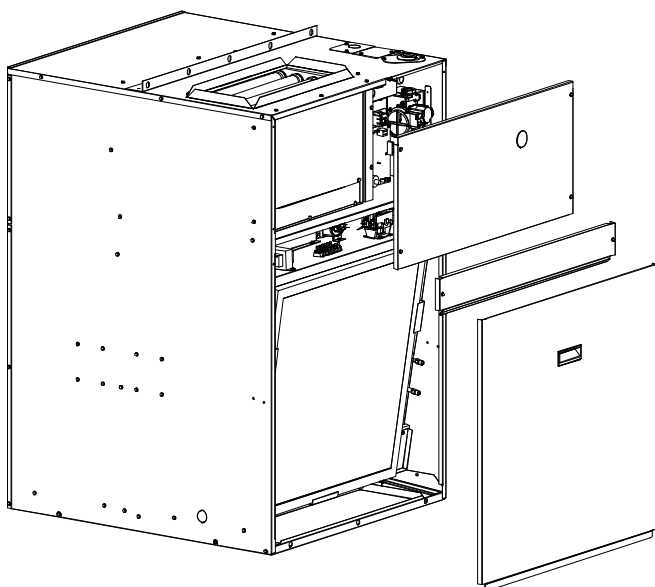

FIGURE 45 – Removal of Control Cover
- 1) Remove screws (2) from controls cover and remove panel. See **FIGURE 45 – Removal of Control Cover**.